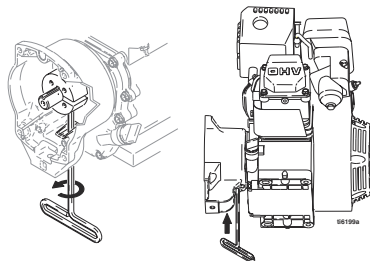

FIG. 9
3. FIG. 9. Tip engine on side so gas tank is down and air cleaner is up.